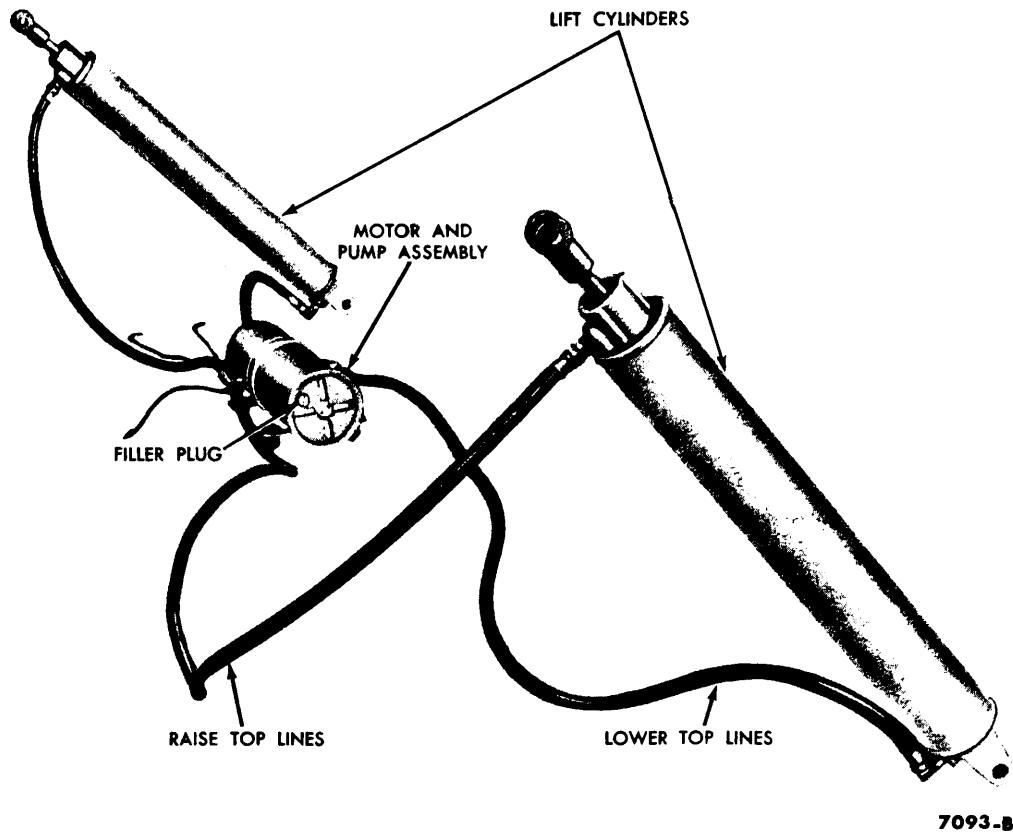

FIG. 3—Top Power Unit
5. Install a new seal on the center bolt, and install the reservoir and cover on the valve body, using the lines previously scribed as guides (Fig. 1). The embossed lines in the cover must be positioned as in Fig. 3.